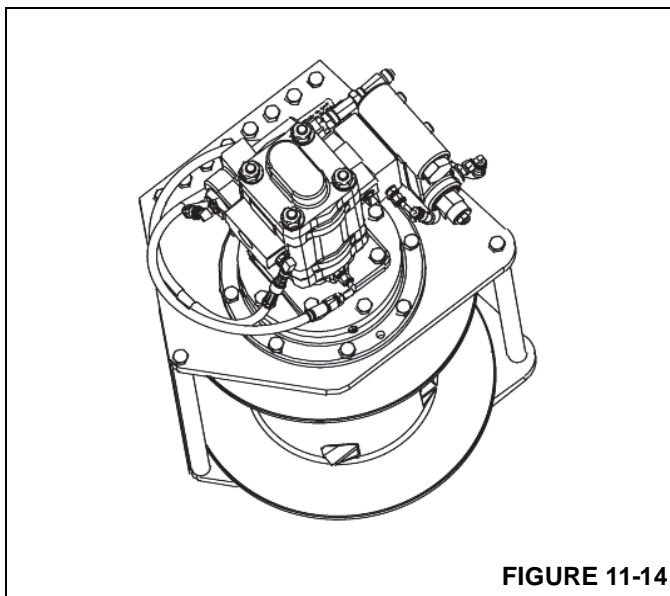

FIGURE 11-14
1. Stand the hoist on its end with the motor pointing up. Place blocking under the side plate so the hoist is not sitting on the shaft (Figure 11-14).
3. Attach the shaft (32) to the side plate (29) using the six capscrews (3). Make sure the vent (30) is oriented properly. Torque the capscrews to recommended values, refer to *Fasteners and Torque Values*, page 1-12.
4. Install retaining ring (48) onto the shaft (32)
5. Lay the unit down with the rods (2) pointing up. Support the side plate (29) with blocking (Figure 11-14) so that the hoist is not setting on shaft (32).
6. Set cable drum (5) onto shaft (32) and seat drum on bearing (28). Be careful not to damage seal (306).
7. Install the output planet set (4).
8. Install the output sun gear (16) into the output planet set.
9. Install the thrust washer (6) into the output planet set.
10. Install the input planet set (36) into the drum. Make sure that it fits over the output sun gear (16).
11. Install the input sun gear (8) and thrust washer (6) into the input planet set.
12. Install the thrust washer (6) into the input planet set.
13. Install a new O-ring (304) and if necessary bearing (28) & seal (306) into the bearing carrier (26). Grease the O-ring and seal then install the bearing carrier into the drum.
14. Position the side plate (1) over cable drum on rods (43). Secure the side plate with the three capscrews (2). Tighten capscrews to 109 to 122 Nm (80 to 90 lb-ft).
15. Install the brake sub-assembly into the side plate (1). Make sure that the pilot of the brake housing aligns with the bore in the bearing and that the bolt holes for the motor and vent are oriented properly. Install the eight capscrews (2). Tighten the capscrews evenly to 109 to 122 Nm (80 to 90 lb-ft).